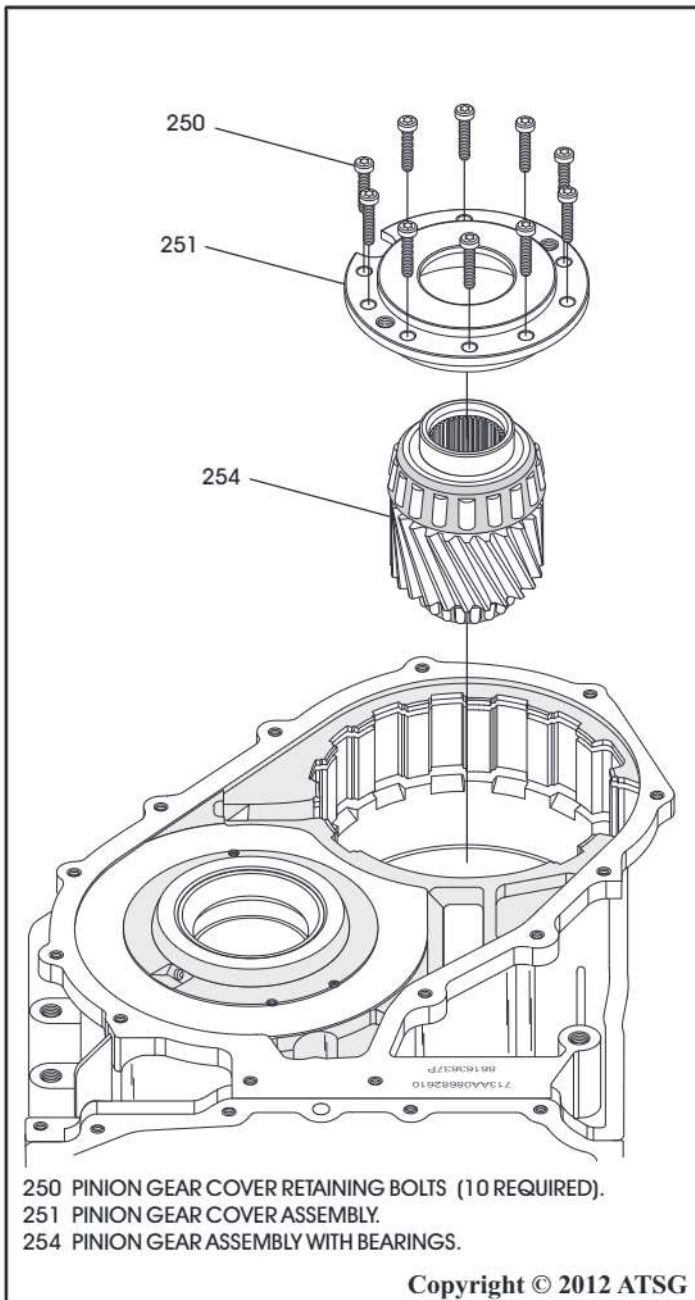

Figure 93
5. Install the completed pinion gear and bearings into case, as shown in Figure 93.
6. Install the completed pinion gear cover and race assembly into the case, as shown in Figure 93.
7. Install the 10 retaining bolts for the pinion gear cover, as shown in Figure 93.